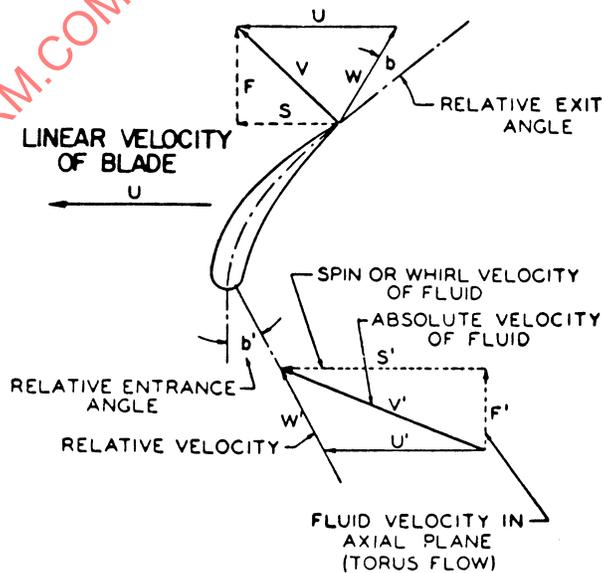

FIGURE 1—VECTOR DIAGRAM SHOWING USE OF HYDRODYNAMIC DRIVE SYMBOLS
- F = fluid velocity in axial plane, torus flow, m/s (ft/s) (Refer to Figure 1)
- S = tangential component of absolute velocity, m/s (ft/s) (Refer to Figure 1)
- V = absolute velocity, m/s (ft/s) (Refer to Figure 1)
- W = relative velocity, m/s (ft/s) (Refer to Figure 1)